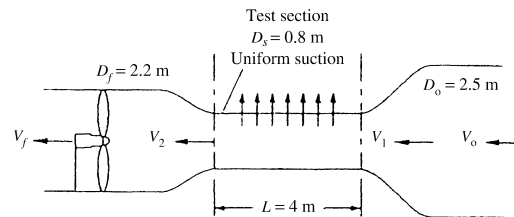

Fig. P3.33
3.33 In some wind tunnels the test section is perforated to suck out fluid and provide a thin viscous boundary layer. The test section wall in Fig. P3.33 contains 1200 holes of 5-mm diameter each per square meter of wall area. The suction velocity through each hole is $V_r = 8$ m/s, and the test-section entrance velocity is $V_1 = 35$ m/s. Assuming incompressible steady flow of air at 20°C, compute (a) V_o , (b) V_2 , and (c) V_f in m/s.